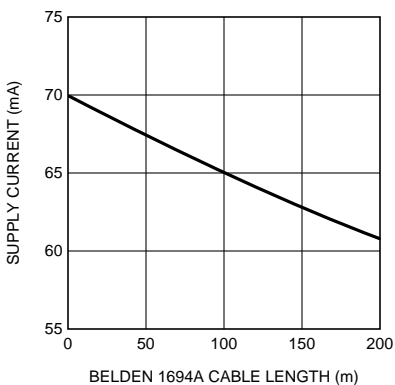
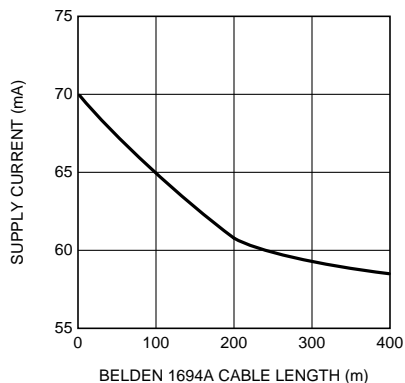

Figure 2. Supply Current vs. Belden 1694A Cable Length, 1.485 Gbps
Figure 3. Supply Current vs. Belden 1694A Cable Length, 270 Mbps
- (1) Current flow into device pins is defined as positive. Current flow out of device pins is defined as negative. All voltages are stated referenced to V_{EE} = 0 Volts.
- (2) Typical values are stated for V_{CC} = +3.3V and T_A = +25°C.
- (3) Specification is guaranteed by characterization.
- (4) The maximum input voltage swing assumes a nonstressing, DC-balance signal; specifically, the SMPTE-recommended color bar test signal. Pathological or other stressing signals may not be used. This specification is for 0m cable only.
- (5) Supply current depends on the amount of cable being equalized. The current is highest for short cable and decreases as the cable length is increased. Refer to Figure 2 Figure 3.
The supply current (I_{CC}) depends on the amount of cable being equalized. The current is highest for short cable and decreases as the cable length is increased. Figure 2 shows supply current vs. Belden 1694A cable length for 1.485 Gbps data and Figure 3 shows supply current vs. Belden 1694A cable length for 270 Mbps data.